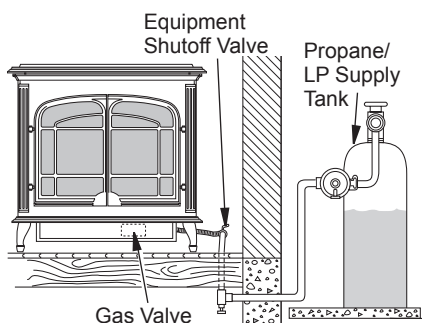
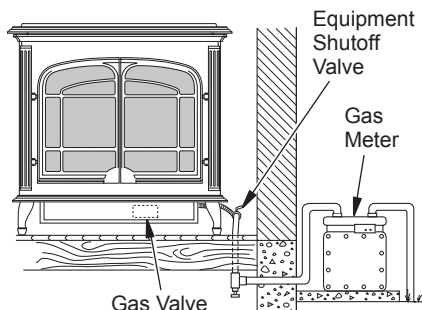

Figure 31 - Checking Gas Joints for Propane/LP Gas Burner System (Oxford™ Model Shown)
Figure 32 - Checking Gas Joints for Natural Gas Burner System (Oxford™ Model Shown)
3. Check all joints from propane/LP supply tank or gas meter to equipment shutoff valve (see Figure 31 for propane/LP or Figure 32 for natural). Apply noncorrosive leak test solution to all gas joints. Bubbles forming show a leak. Correct all leaks at once.
4. Check all joints from equipment shutoff valve to thermostat gas valve (see Figure 31 for propane/LP or Figure 32 for natural). Apply commercial leak test solution to all gas joints. Bubbles forming show a leak. Correct all leaks at once.